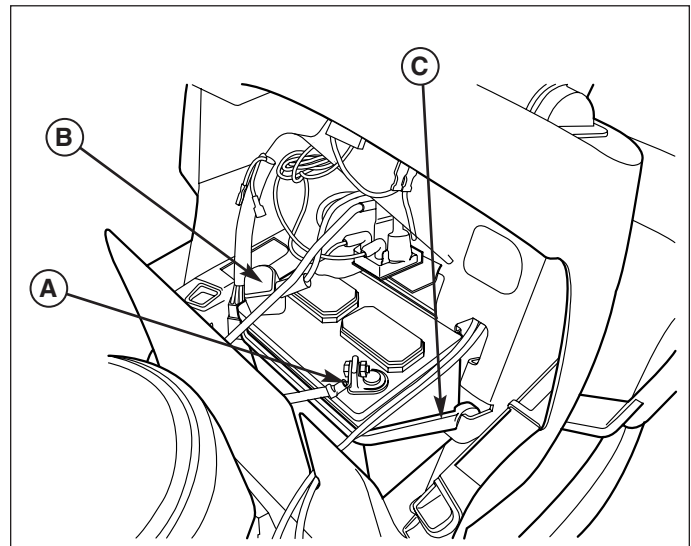

Figure 18. Battery
1. Disconnect the cables from the battery, negative cable first (A, Figure 18).
2. Remove the battery hold-down (C) and battery.
5. Reinstall the battery in the battery compartment, and secure with the battery hold-down (C).
6. Reattach the battery cables, positive cable first (B).